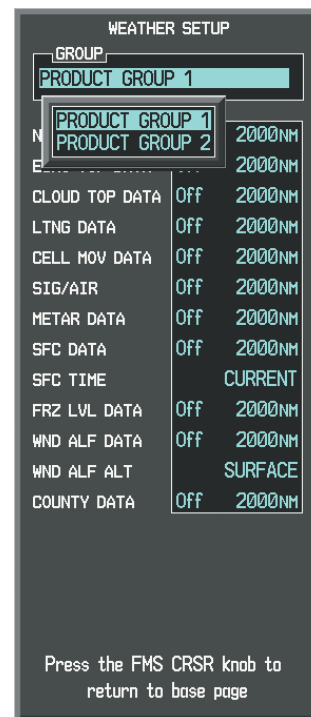

Figure 6-5 Weather Data Link (XM) Page Setup Menu
- 4) Turn the small **FMS** Knob to select 'PRODUCT GROUP 1' or 'PRODUCT GROUP 2', and press the **ENT** Key (Figure 6-5).
- 8) Press the **FMS** Knob or **CLR** Key to return to the Weather Data Link (XM) Page with the changed settings.
- 1) Select the Weather Data Link (XM) Page.